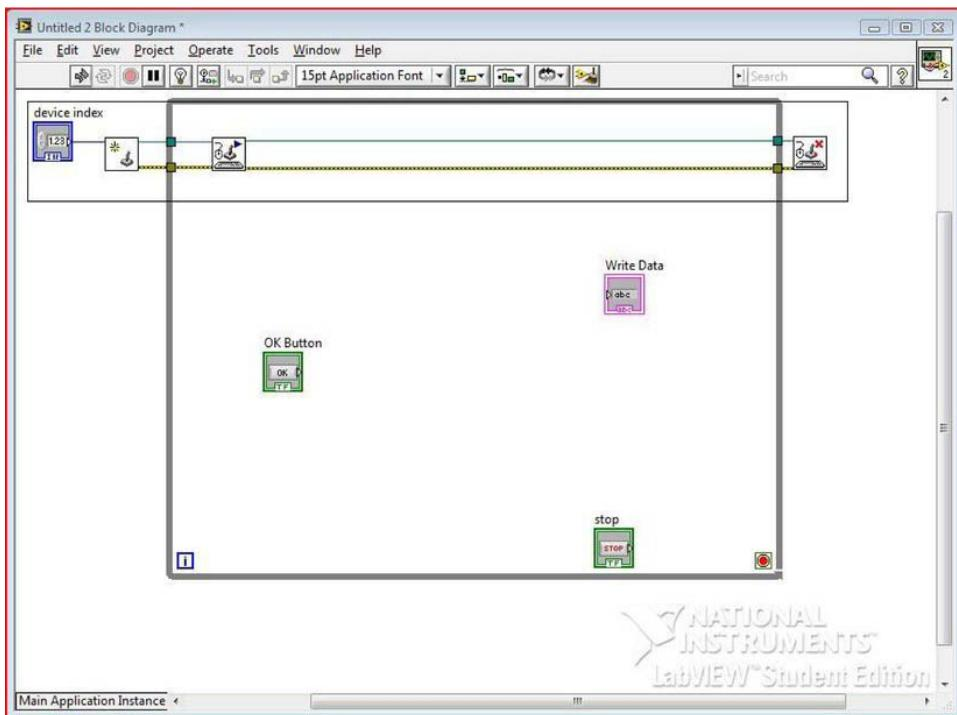

Figure 10-25. Add Input Device Functions to the Block Diagram.
11. After that, right-click the device ID on the left side of the Initialize Joystick Function, and a pop-up menu should appear. Go to Create ▶ Control on the pop-up menu; this will add a control to your Block Diagram and Front Panel. Figure 10-25 shows adding the Input Device Control Functions to the Block Diagram. (Make sure you leave plenty of space on the Block Diagram, as we still have some functions to add to it.)